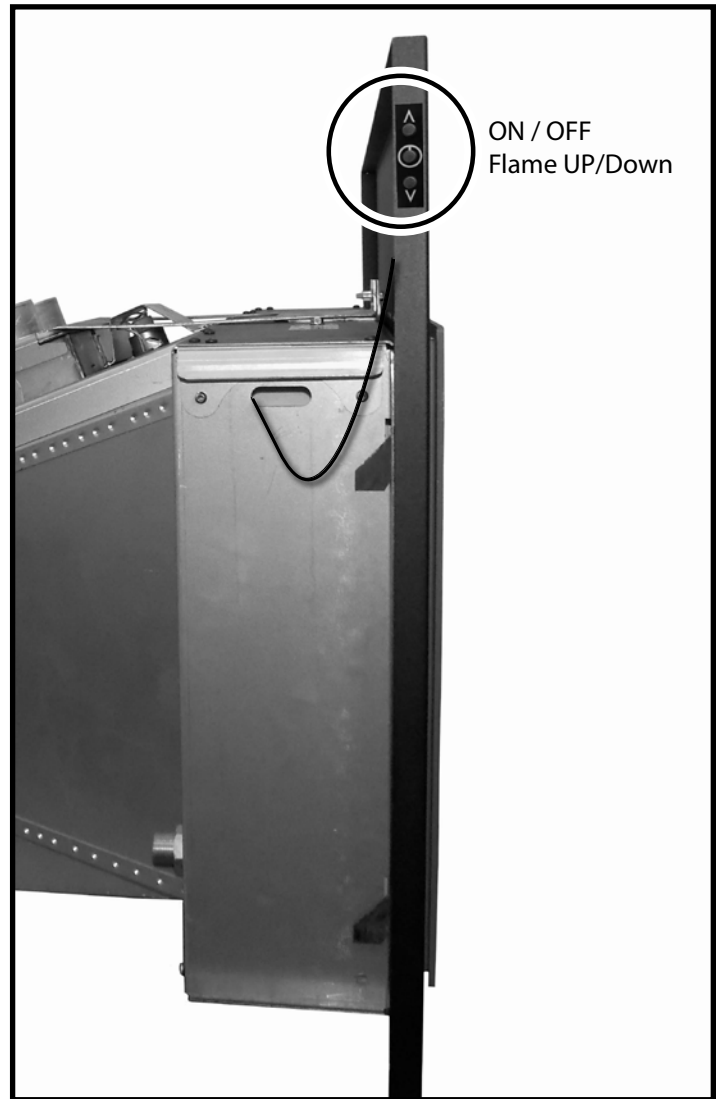

Figure 88: On Off switch location for Maxitrol units.
4. Install the surround backing plate and surround (Figure 88).